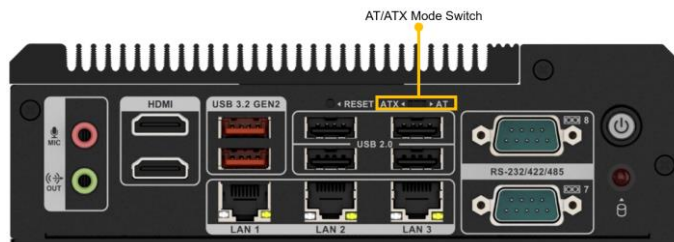

Figure 3-15: AT/ATX Switch Location
Step 1: Locate the AT/ATX switch on the front panel (Figure 3-15).